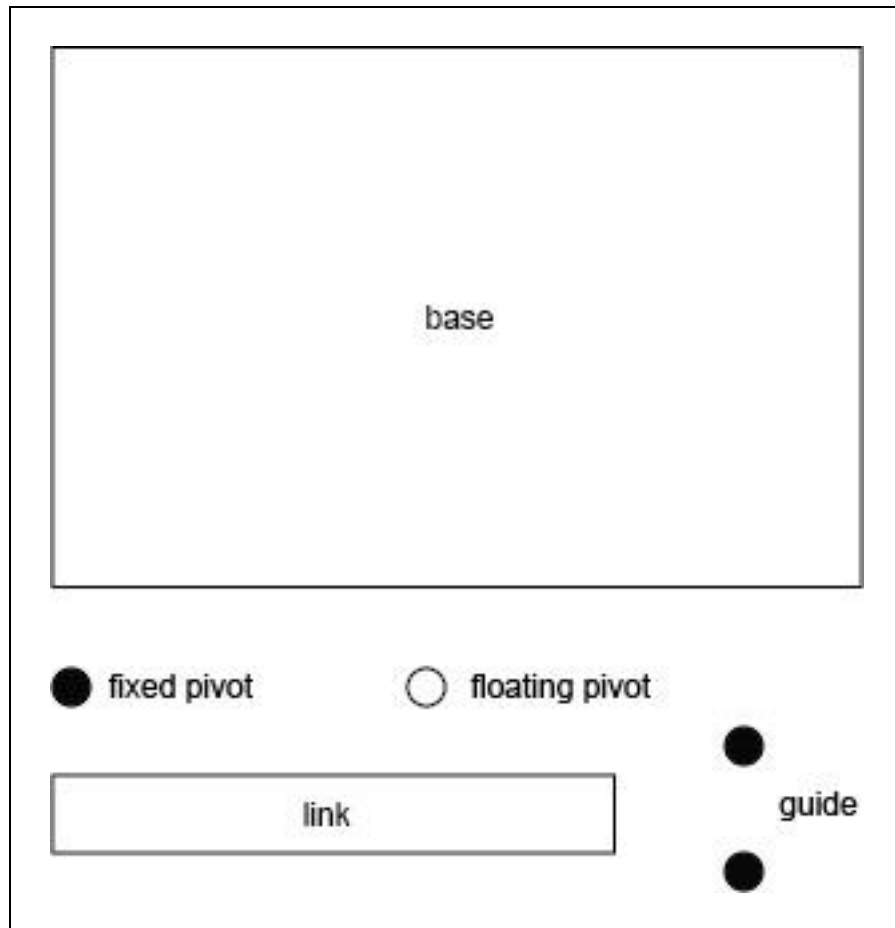

Figure 2: Chart showing standard mechanism symbols
- ✦ Post a sheet of chart paper showing the Standard Mechanism Symbols (see Figure 2).